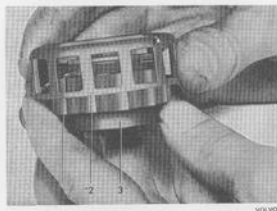
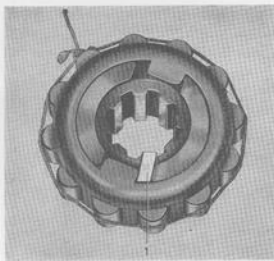

Fig. 4-62: Assembling uni-directional clutch. 1
Fig. 4-63. Assembling uni-directional clutch, II
5. Assemble the uni-directional clutch, spring and roller cage, see Fig. 4-62. Turn the roller cage clockwise as far as it will go and lock it in this position with a key as shown in Fig. 4-63. Place in the rollers. Tie a piece of rubber band or string round the rollers.